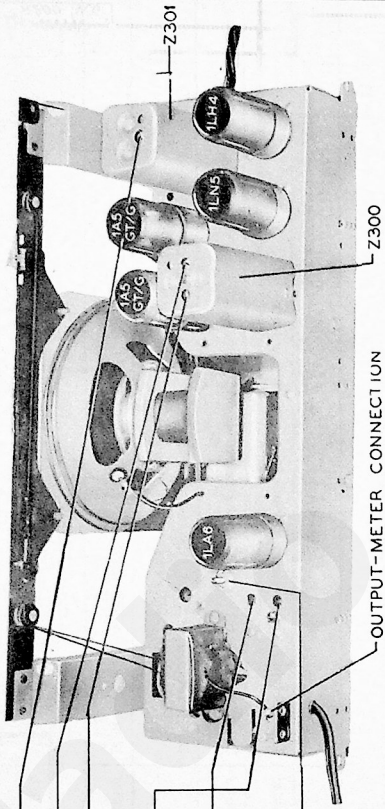

Figure 9. Chassis, showing alignment adjustments.
Connect audio-signal-generator ground lead to the radio chassis, and test point "C"; connect the output lead through a .1-mf condenser to the test points indicated in the chart. Set the radio volume control to maximum. Connect an output meter between the terminal panel (figure 9)
For all tests in this section use a modulated 455-kc signal. Connect the signal-generator ground lead to the radio chassis, test point "C"; connect the output lead through a .1-mf condenser to the test points indicated in the chart. Set the radio volume control at maximum. Connect an output meter between the terminal panel (figure 9) and chassis; for each step, adjust signal generator output for an indication not exceeding 0.4 volt.
- For tests indicated in the chart, with the exception of the oscillator tests, use an r-f signal generator with modulated signal. Connect the ground lead of the signal generator to the radio chassis. Connect the connect lead of the signal generator to the test points indicated in the chart. Connect an output meter between the terminal panel (figure 9) and chassis; for each step (except step 3), adjust signal generator output for an indication not exceeding 0.4 volt. Set the radio volume control at maximum. Set the signal generator to 1000 kc and adjust tuning control for maximum signal.
OUTPUT METER: Connect across the speaker terminals, or between the terminal panel and chassis, as indicated in figure 9.